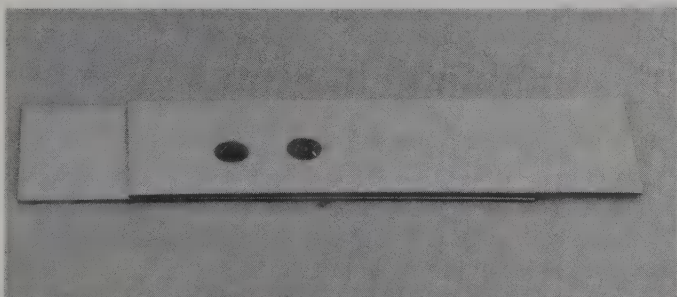
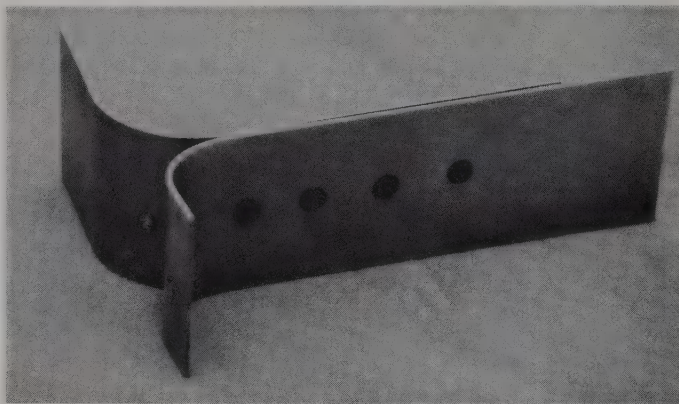

Fig. 26-5. Two pieces of mild steel overlapped about seven inches (178 mm) and spot welded.
Fig. 26-6. A spot welding sample that was bent prior to being pulled apart.
When you are first learning about spot welding, the trial-and-error method of setting the current is useful. First, set the tap switch. A higher setting is used for thicker metals; a lower setting for thin metals. Set the percent heat to 70%. Make two spot welds, as shown in Fig. 26-5. If metal squirts out, turn down the tap setting. If the metal pieces do not weld together, turn up the tap setting. If the pieces *do* weld together, tear them apart and look at the spot welds. The weld size should be slightly smaller than the diameter of electrode being used. A good weld will tear some metal away from one of the pieces as they are pulled apart. Figs. 26-6 and 26-7 show pieces of metal pulled apart
9. Overlap two pieces of mild steel about seven inches, as shown in Fig. 26-5. Make a spot weld. Adjust the current as required. Make additional welds, adjusting the force, time, and current as needed, until you obtain a spot weld that is about 1/8" (3.2 mm) in diameter. You may make more than one weld on each sample while setting the machine.
12. Tear or peel apart at least five spot welds. See Figs. 26-6 and 26-7. Measure and record, on a separate sheet of paper, the size of five different spot welds.
8. Overlap two pieces of aluminum about seven inches, as shown in Fig. 26-5. Make one or two spot welds. Follow the trial-and-error approach described earlier in this chapter, to determine the weld time and weld current. Make additional welds, adjusting the force, time, and current, until you have spot welds that are about 1/8" (3.2 mm) in diameter.
11. Tear apart five spot welds. See Figs. 26-6 and 26-7. Measure the size of the spot welds. Write them down on a separate sheet of paper.